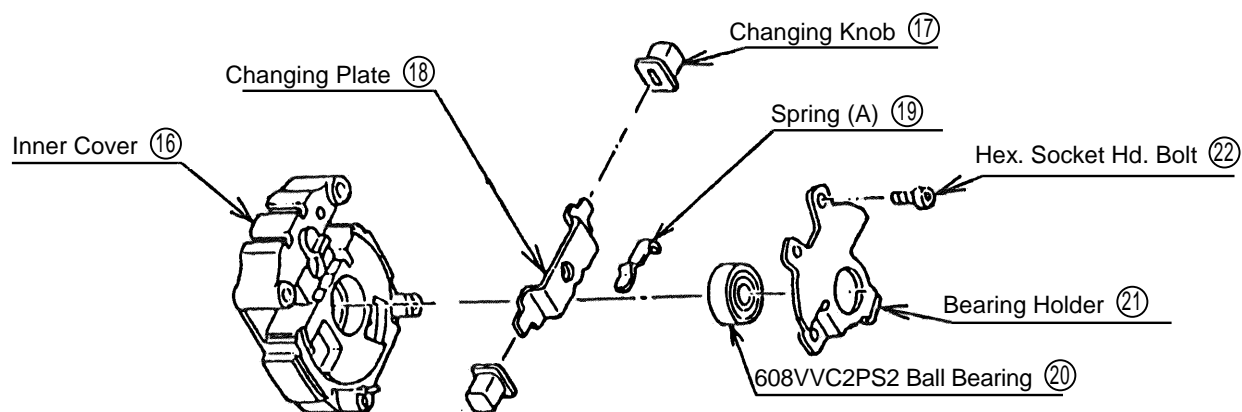

Fig. 6
1-2-5. Reassembly of the Inner Cover Section (See Fig. 6):
With an arbor press, fit the 608VVC2PS2 Ball Bearing ②① into the Inner Cover ①⑥. Next, mount the Changing Knobs ①⑦ onto the Changing Plate ①⑧, and insert it together with Spring (A) ①⑨ into the Inner Cover ①⑥, being very careful that the parts are aligned as illustrated in Fig. 6. Finally, fix the Bearing Holder ②① with the three M5 x 12 Hexagon Socket Hd. Bolts ②②.